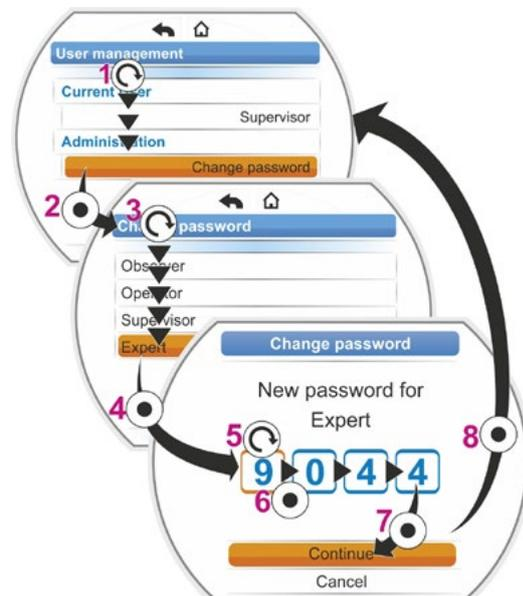

Fig. 2: Assign user access level
2. Set orange selection marker to 'Change password' menu item (fig. 2, item 1).
3. Confirm selection (fig. 2, item 2)